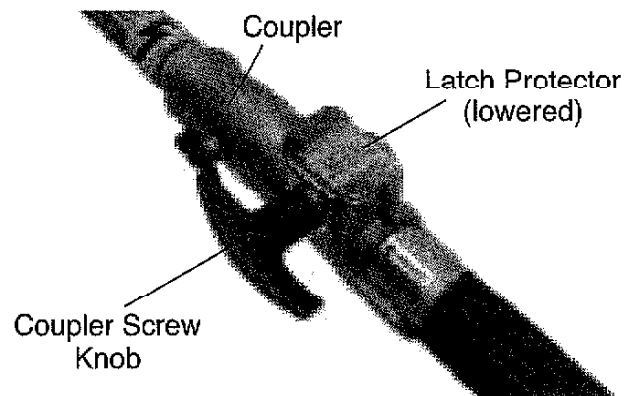

Figure 7
4. When the two tube halves are locked together, press down on the spring-loaded latch protector and tighten the coupler screw. See Figure 7.